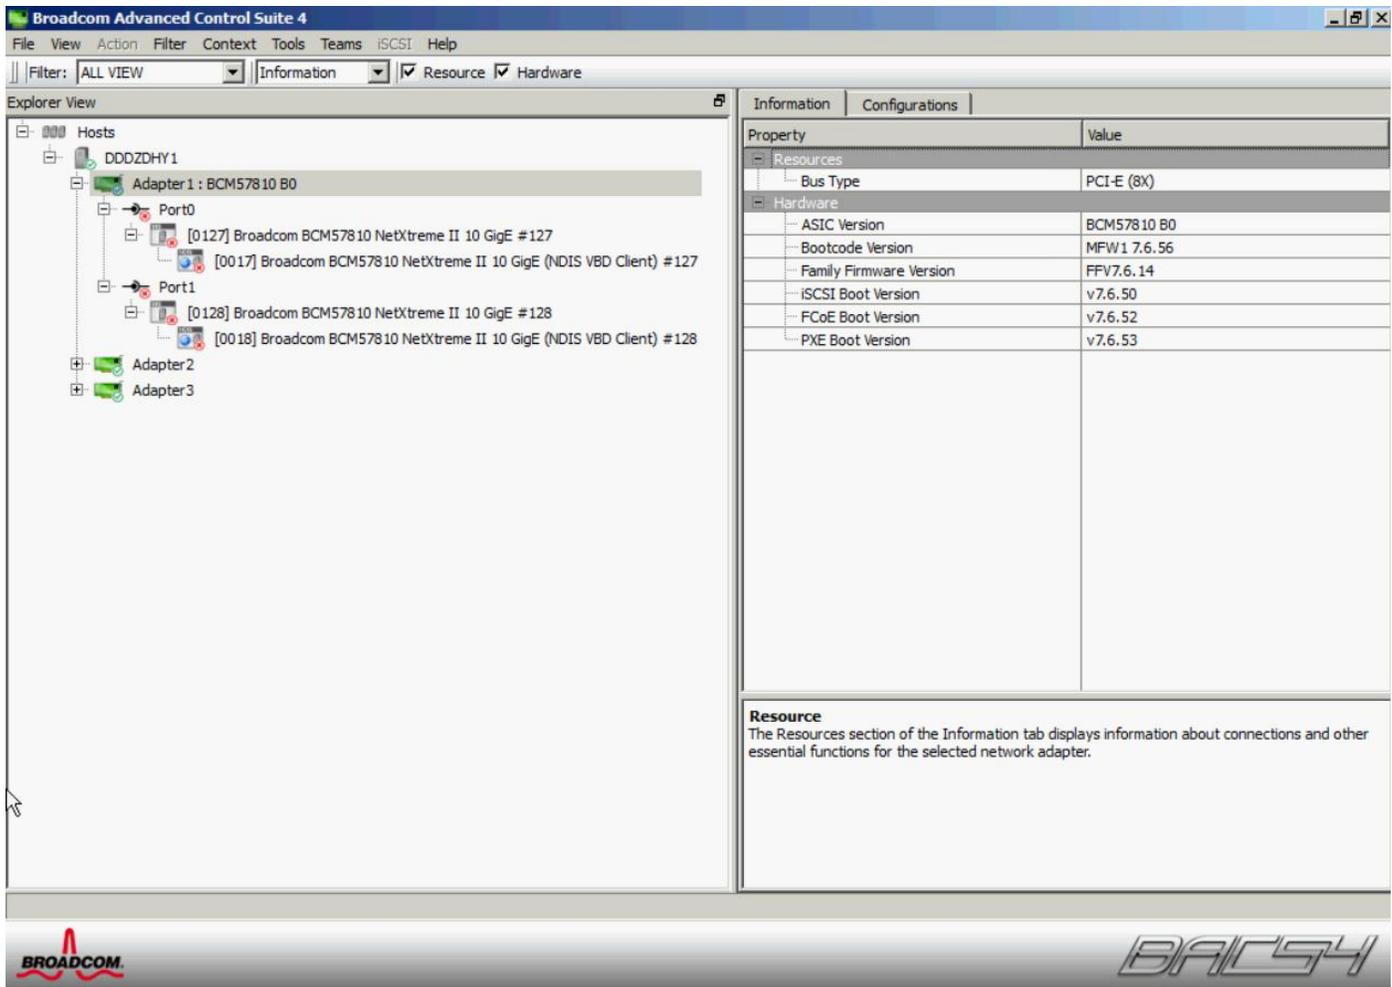

Figure 6 Broadcom 57810 CNA adapter view in Broadcom Advanced Control Suite 4
2. Double click the **Broadcom Advanced Control Suite 4** icon/shortcut in Windows. The Broadcom Advanced Control Suite 4 (Figure 6) opens. In this setup, Adapter 1 is being utilized. Note the small red **x** which appears next to the adapter ports. This is because the Dell MXL switches which the ports are connecting to have not yet been configured.
Note: In the current configuration (Figure 6), there are two ports and only one partition per port. This is because the adapter is in Single Function mode and NPAR is not being utilized.